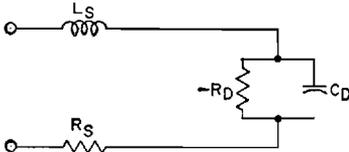

Figure 109. Equivalent circuit for a tunnel diode biased in the negative-resistance region.
Fig. 109 shows the form of the equivalent circuit when the diode is
The figure of merit F' of a tunnel diode is equal to the reciprocal of $2\pi RC$, where R and C are the equivalent values $-R_D$ and C_D , respectively, shown in Fig. 109. This expression has two very useful interpretations: (1) it is the diode gain-bandwidth product for circuits operating in the linear negative-resistance region of the characteristic, and (2) its reciprocal is the diode switching time when the device is used as a logic element.